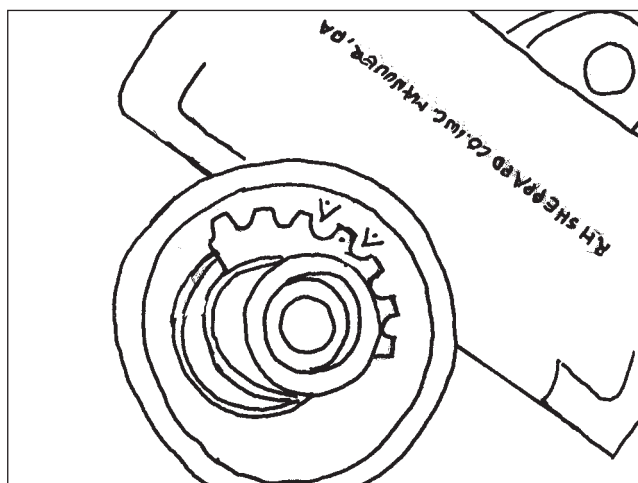

Figure 28
12. Locate the timing marks on the piston and sector shaft. Install the sector shaft (Figure 28).